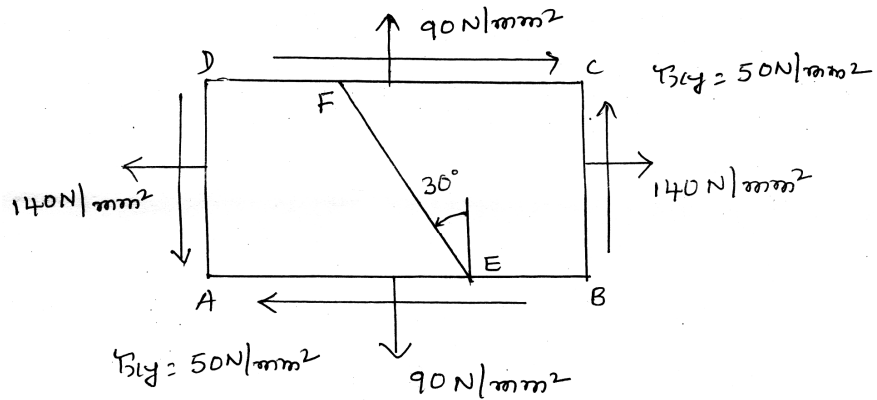

Fig Q 4(b)
- b. A point in a strained material is subjected to stress as shown in Fig. Q 4(b). Find using Mohr's circle method the normal, tangential and resultant stress across the plane EF. Also determine the maximum, minimum principal stresses, its locations. 8